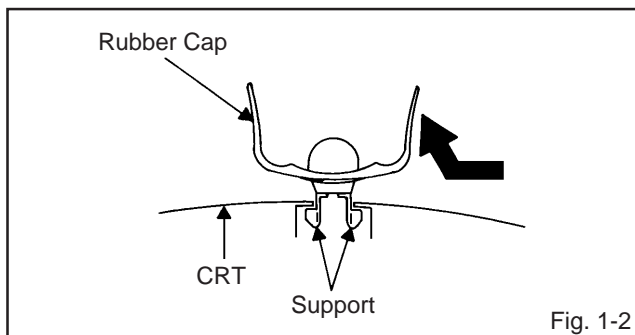

Fig. 1-2
2. Flip up the sides of the Rubber Cap in the direction of the arrow and remove one side of the support. **(Refer to Fig. 1-2)**